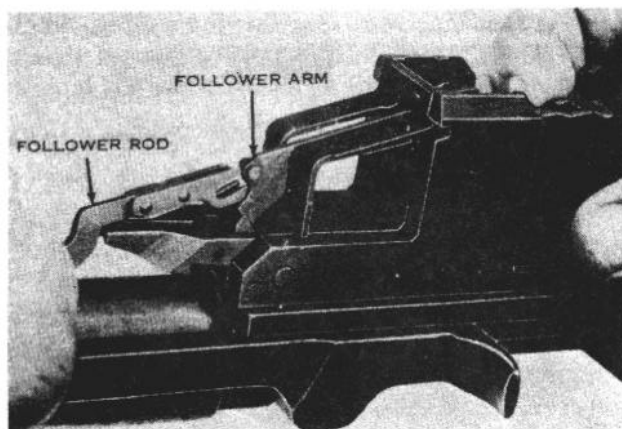

Figure 16. Replacing the follower rod and operating rod spring.
i. Insert the loose end of the operating rod spring into the operating rod. Grasp the follower rod with the left hand, making sure that its hump is toward the barrel. Pull toward the muzzle, compressing the operating rod spring, and engage the claws of the follower rod with the front studs of the follower arm (fig. 16). You may have to raise the follower assembly to do this.